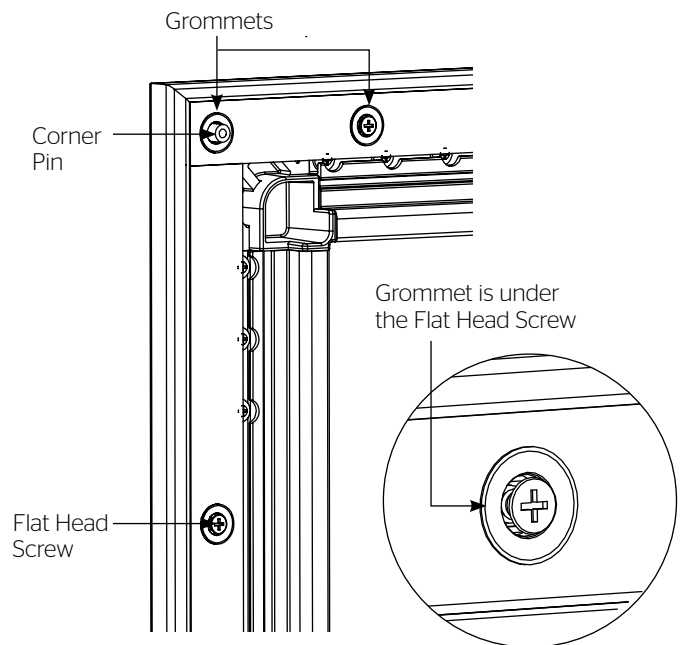

Figure 2
6. Wrap fabric around inner frame and hook grommets over the corner pins (Figure 2).
7. Hook the rest of the grommets over the flat head screws on all sides (Figure 2). Please be sure the grommets clear the head of each screw.